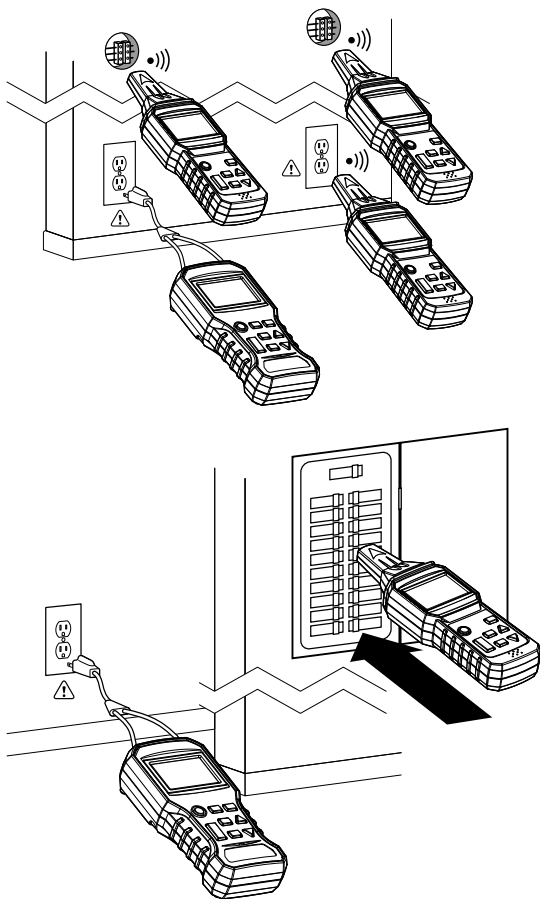

Figure 3 Two examples of matching connected points in a circuit.
4. Refer to Figure 3 in the Application Illustrations section for examples.